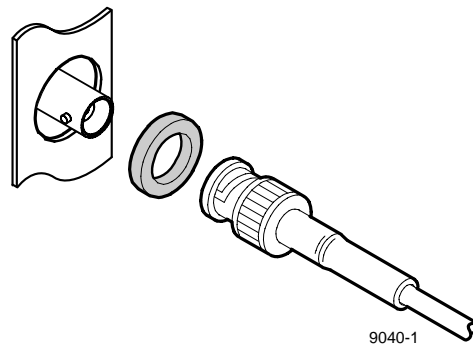

Figure 2-6. BNC Connection With EMI Gasket
To insure compliance with EMI standards, all BNC cable connections require that an EMI suppression gasket be attached as shown in Figure 2-6. Your Profile system shipment included a set of gaskets.
2. Place EMI gaskets on the BNC connectors as shown in Figure 2-6, page 1-7.
1. Place EMI gaskets on the four BNC connectors as shown in Figure 2-6, page 1-7.
1. Place an EMI gasket on the BNC connectors being used as shown in Figure 2-6, page 1-7.
1. Place an EMI gasket on each BNC connector as shown in Figure 2-6, page 1-7.
1. Place an EMI gasket on the three BNC connectors as shown in Figure 2-6, page 1-7.